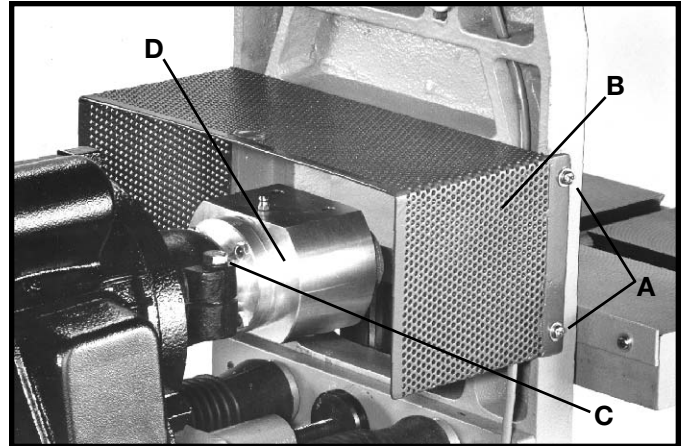

Fig. 39
2. Remove four screws, two of which are shown at (A) Fig. 39, and remove safety shield (B).
3. Loosen screw (C) Fig. 39, and slide boring head (D) from carriage assembly.